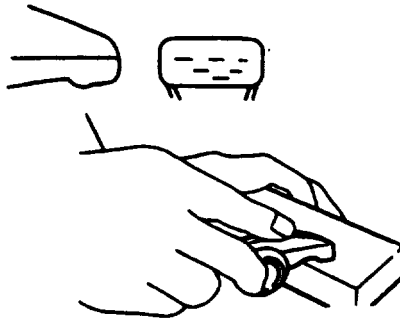

FIGURE 3-57. Rocker Arm Correction
- f. Inspect rocker arm valve stem contact surface for step wear and scoring. If contact surfaces have light step wear or scoring, they may be honed with oil stone. If step wear or scoring is severe, rocker arm must be replaced, refer to FIGURE 3-57.